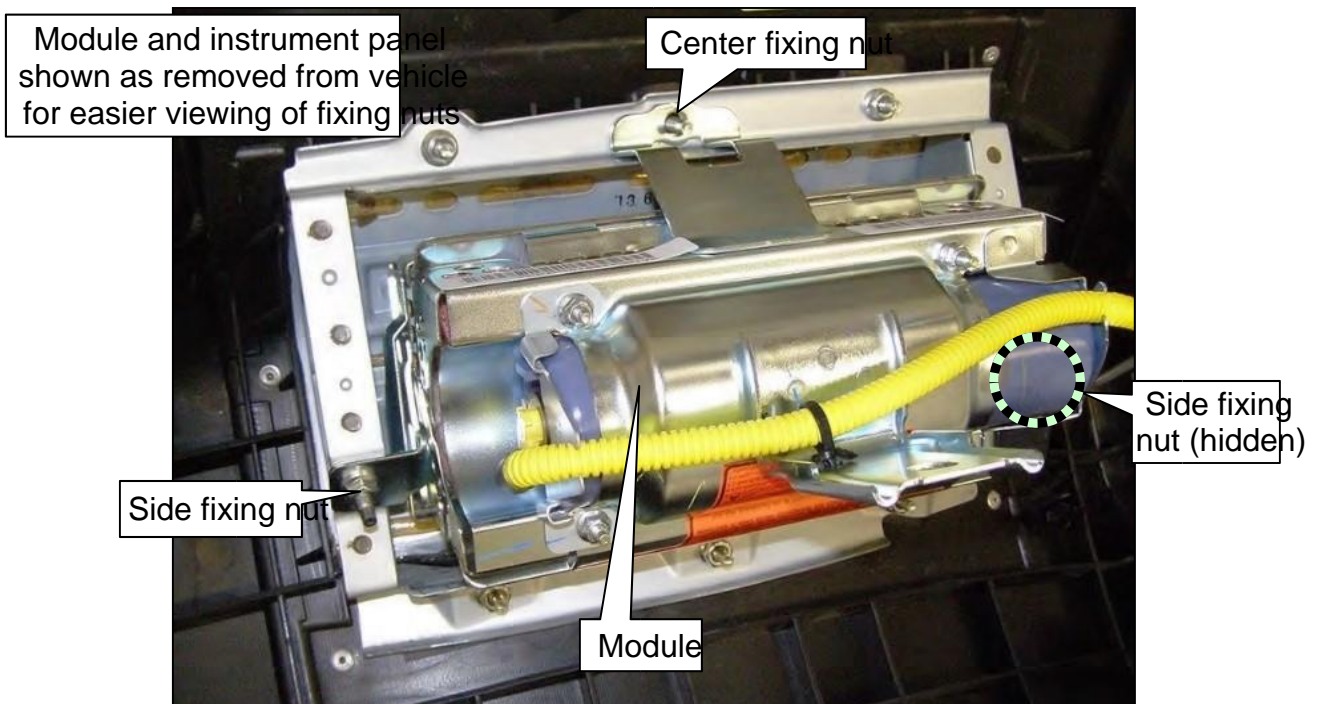

Figure 14
- a. Using the three (3) new fixing nuts supplied with the replacement module, secure the module mounting brackets to the supports on the back of the instrument panel.
□ Fixing nuts torque: 6.0 N•m (0.61 kg-m, **53.5 in lbs**) **HINT:** One of the fixing nuts is hidden (see Figure 14).